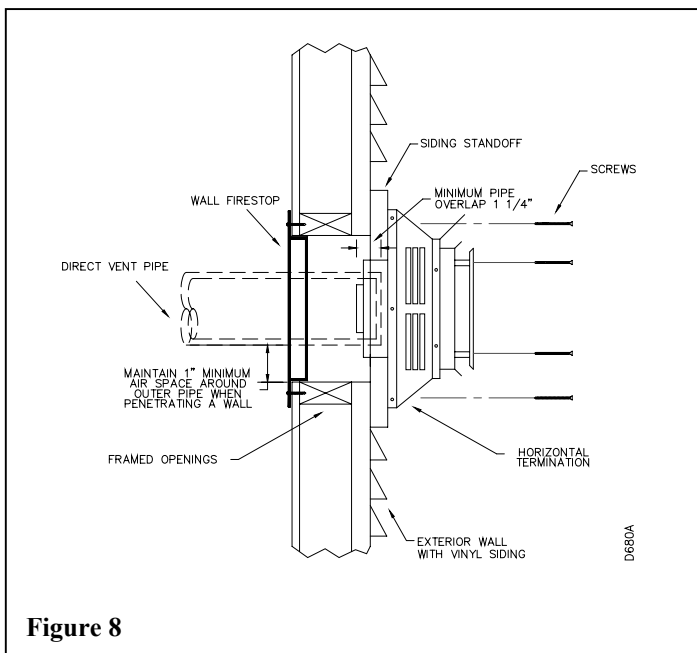

Figure 8
5. Depending on the wall thickness, allow one inch to protrude from internal wall as shown in figure 8.
6. An optional siding standoff may be installed between the vent cap exterior wall. Secure horizontal top to standoff and then secure the complete assembly to wall (see figure 8). The vent termination must be removable for service pipe inspection.